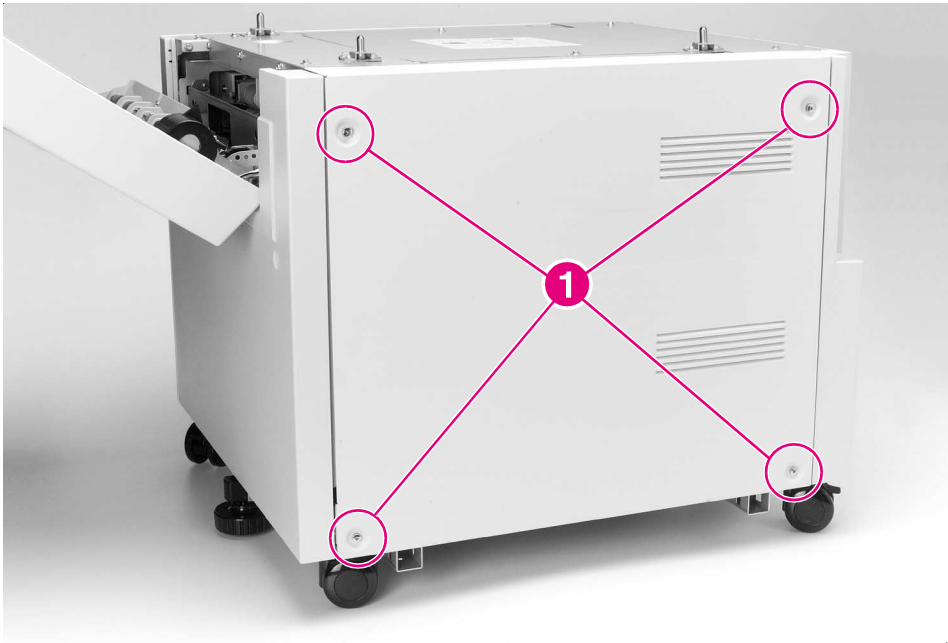
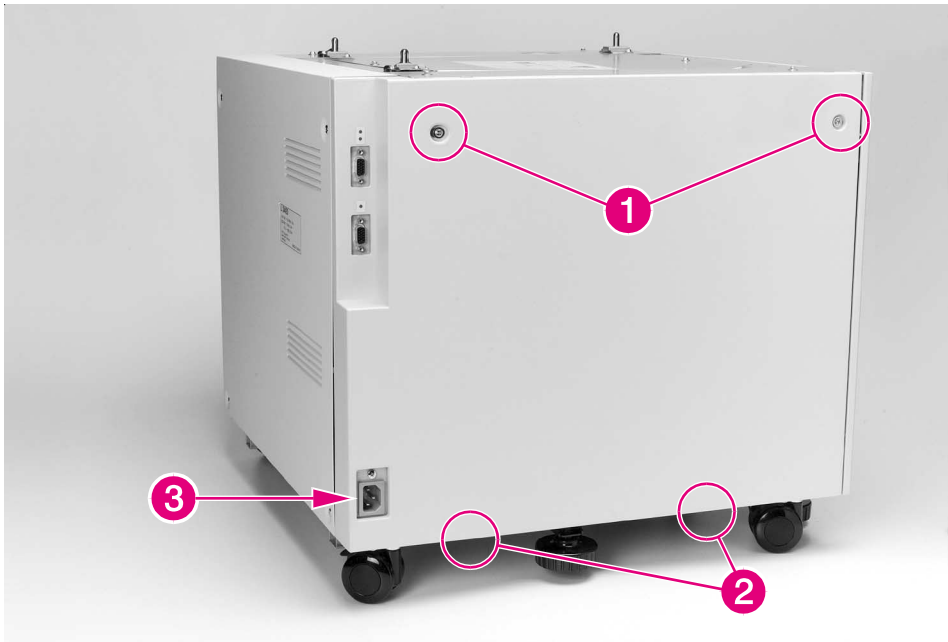
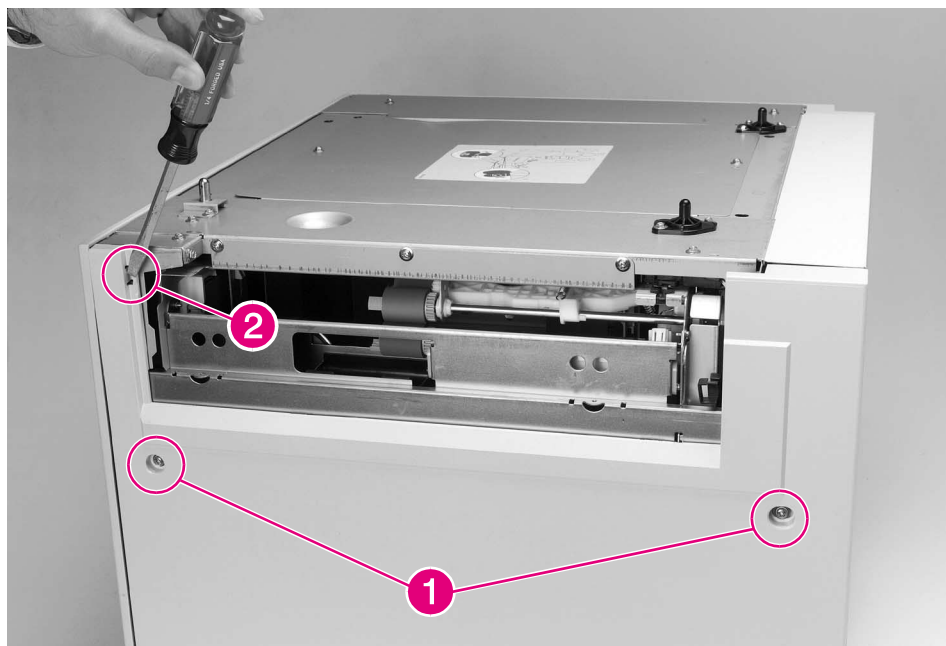

Figure 6-65 2000-sheet Input Tray Back Cover
Figure 6-66 2000-sheet Input Tray Left Cover
Figure 6-67 2000-sheet Input Tray Right Cover
- 2 Remove the 4 screws that secure the Back Cover of the 2000-sheet Input Tray to the chassis: 1 screw on each corner (figure 6-65, callout 1).
- 2 Remove the 2 screws that are located at the top of the 2000-sheet Input Tray's Left Cover: 1 screw near each corner (figure 6-66, callout 1).
- 2 Remove the 2 screws that are located near the middle of the 2000-sheet Input Tray's Right Cover: 1 screw on each side (figure 6-67, callout 1).
- 3 Using a flat-blade screwdriver, release the plastic retaining tab that secures the Right Cover's upper-left corner to the chassis (figure 6-67, callout 2).
- 1 Remove the Back Cover from the 2000-sheet Input Tray (see figure 6-65).
- 3 Remove the Left and Right Covers from the 2000-sheet Input Tray (see figure 6-66 and figure 6-67).
- 1 Remove the Back and Left Covers from the 2000-sheet Input Tray (see figure 6-65 and figure 6-66).
- 2 Remove the Right Cover from the 2000-sheet Input Tray (see figure 6-67).